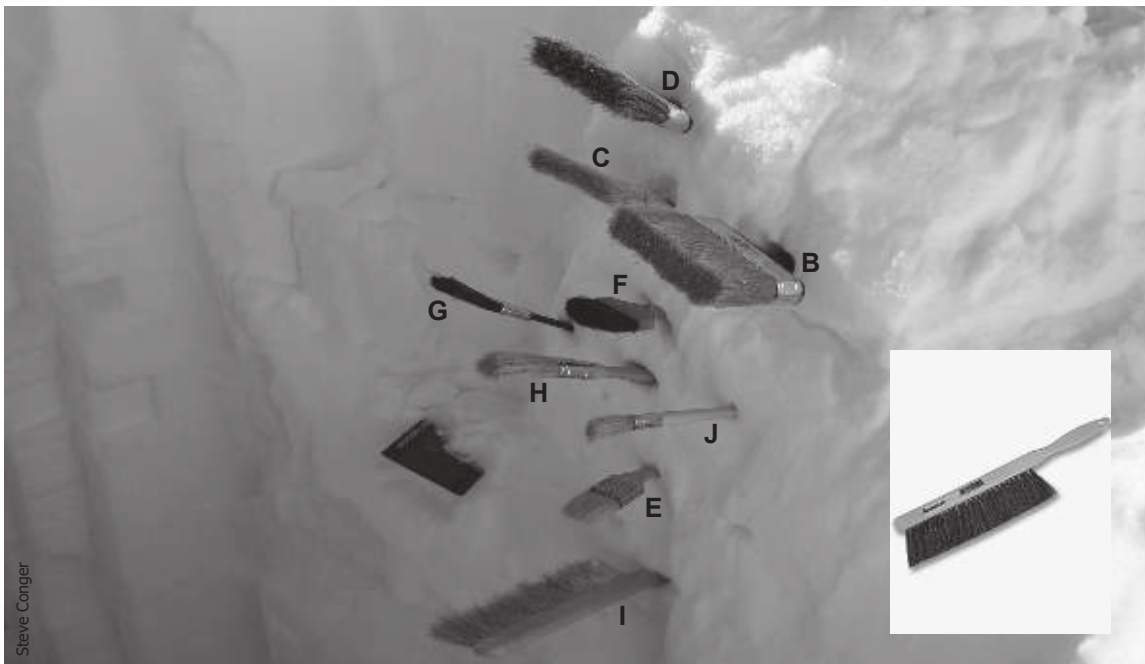

Figure 1. Selection of brushes (left) and choice brush Staedtler model 989 00 (inset).
The better-rated brushes (C, H, and J) fell in the mid range of pressure values. Thicker (B and D) and stiffer (G) brushes did not perform well. They damaged the surface, making relief and layering difficult to see. Snow adhesion was a problem on synthetic brushes when snow and air temperature were warmer. A drafting table brush (brush I in Figure 1) received the best overall rating and was the brush of choice.